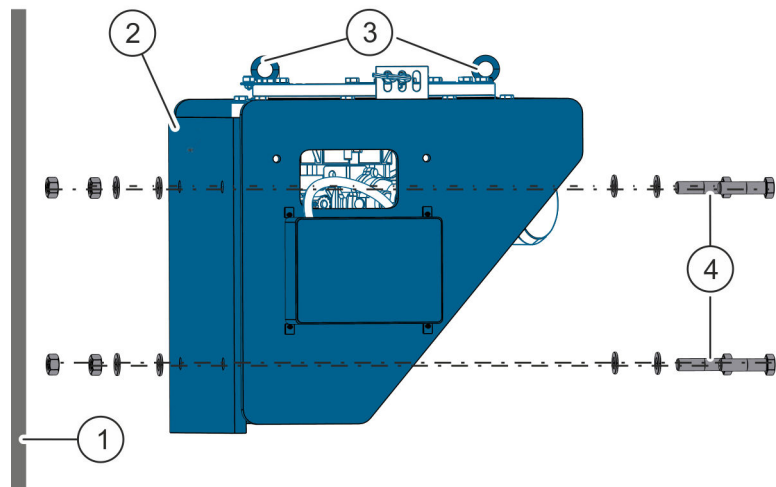

Fig. 12: Swivel arm base
4. Assemble the swivel arm base (Fig. 12/2) on the building structure (Fig. 12/1) according to the detailed design with four screws and nuts (Fig. 12/4).
6. Remove the mounting eyelets (Fig. 12/3).